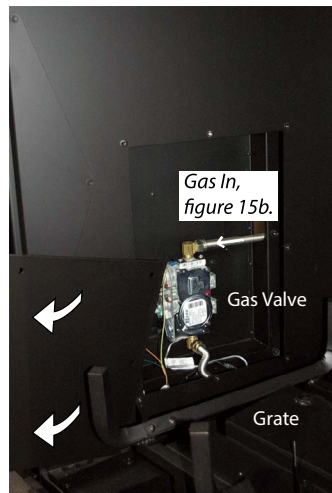

Figure 28a. (Removing the panel from the firebox), incoming gas from service and Gas valve.
Step 4. Slightly tilt panel, and pull out between the grate and firebox wall, **Figure 28a**.